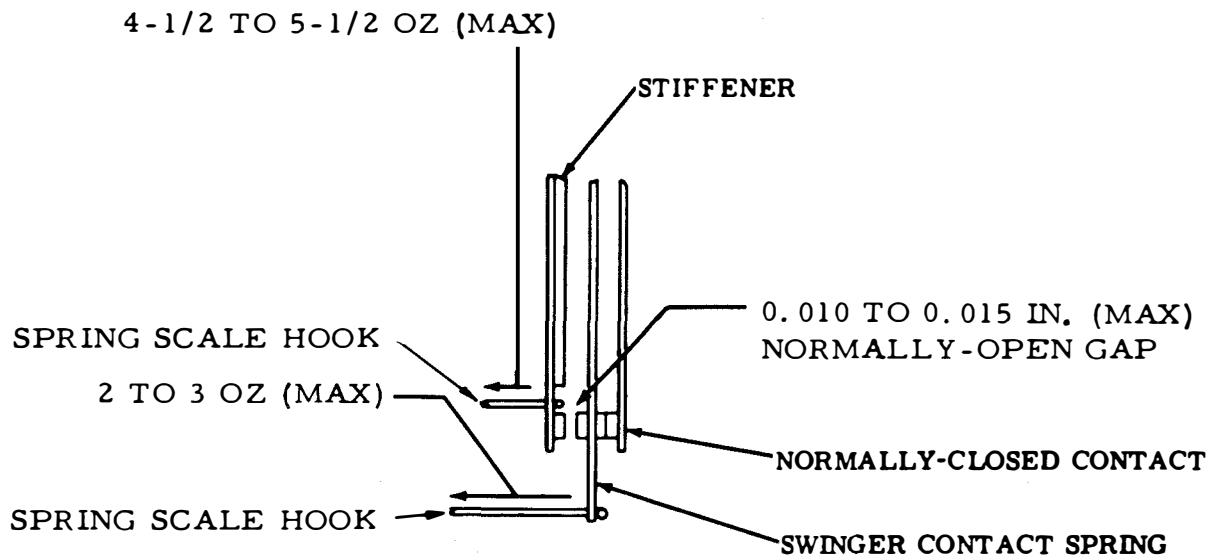

Figure 6-193. Open Contact Gap, Contact Spring, and Swinger Contact Spring
- figure 6-193. (a) Refer to (18) Swinger Contact Spring. Adjust as follows:
- (17) Contact Spring. Adjust as follows:
- (a) Refer to figure 6-193.
- (d) Recheck Open Contact Gap (adjustment (16), above).
- (19) Contact Assembly. Adjust as follows: